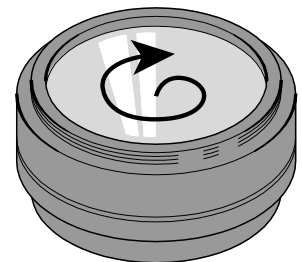

Figure 2. Wipe from the center to the periphery in a circular motion.
4. Wipe the lens surface in a circular motion from the center to the periphery (Figure 2).